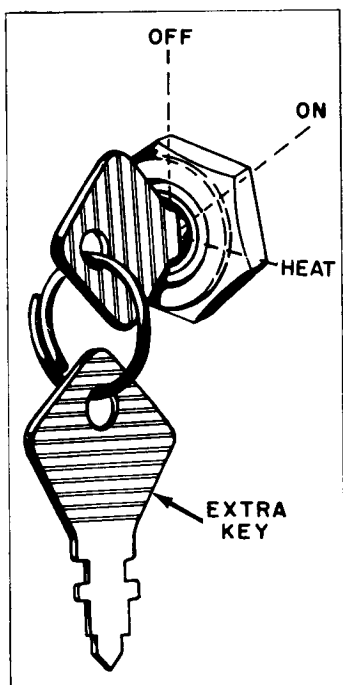

Fig. 12. Switch Key
2. Turn switch key to the "ON" position, Fig. 12.
The 188D engine is equipped with 4 heat plugs, located in the intake manifold. These plugs are activated by turning the switch key to the third or "heat" position. See Fig. 12 and 13.